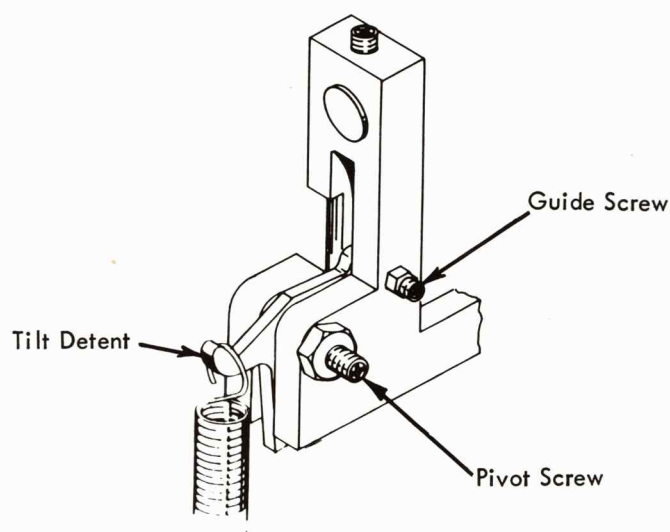

FIGURE 50. Tilt Detent Adjustment
5. **Tilt Detent** - Adjust the guide and pivot screw so that the tilt detent will operate freely with no side play (Fig. 50).